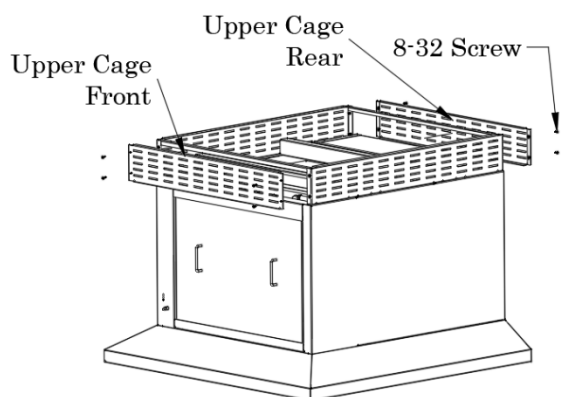

Figure 2.1
1. Remove 8-32 screws from safety cage front and rear safety cage. Remove upper cage front and rear (Figure 2.1).